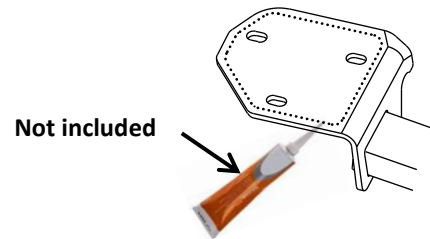

Figure 2
- Apply sealant** - apply silicone sealant to both hitch bracket mounting surfaces. **See Figure 2.**
5. Apply sealant - apply silicone sealant to both hitch bracket mounting surfaces. See Figure 2.